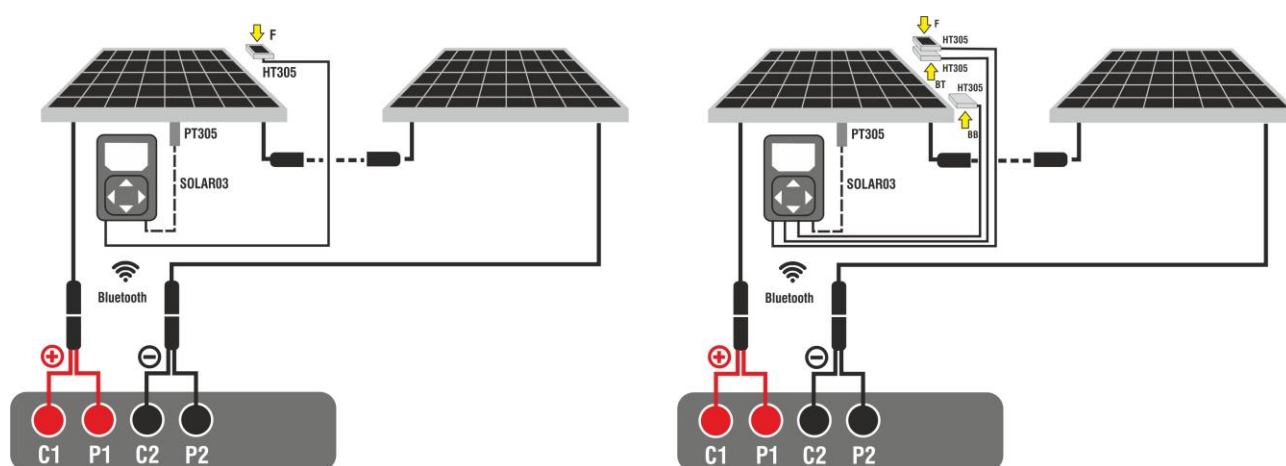

Fig. 34: Connection with remote unit SOLAR03 on Monofacial and Bifacial modules
3. Connect the instrument and the SOLAR03 remote unit to the module/string being tested as shown in Fig. 34. In detail:
- **In case of Bifacial modules** →, position the **three HT305 reference cells** on the front surface of module (**F**), on the top back section (**BT=BackTop**) and on the bottom back section (**BB=BackBottom**) of the module. Connect the front reference cell (F) to input "INP1", BT reference cell to input "INP2", BB reference cell to input "INP3" and **possibly** the temperature probe **PT305** to input "INP4" of the remote unit.
7. Bring the remote unit near the modules and connect the irradiance/temperature probes as shown in Fig. 34. **Since recording has already been activated on remote unit SOLAR03, it is not strictly necessary to maintain the Bluetooth connection anymore.** Maintaining the connection will only allow to immediately obtain the outcome of the test without waiting for the measuring campaign to be completed.